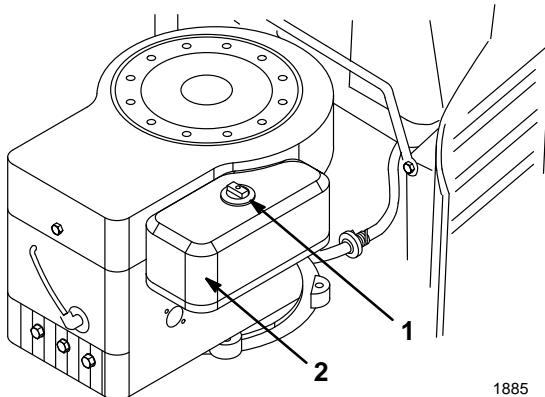

Figure 23
3. Clean around the air cleaner to prevent dirt from getting into the engine and causing damage. Unscrew the knob and remove the air cleaner cover (Fig. 23).
2. Install the air cleaner cover and knob (Fig. 23). Tighten the knob snugly.